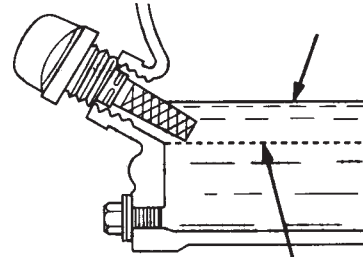

Figure 6. Engine Oil Dipstick (Oil Level)
4. If the oil level is low (Figure 6), fill to the edge of the oil filler hole with the recommended oil type (Table 4). Maximum oil capacity is 1.16 quarts (1.1 liters).